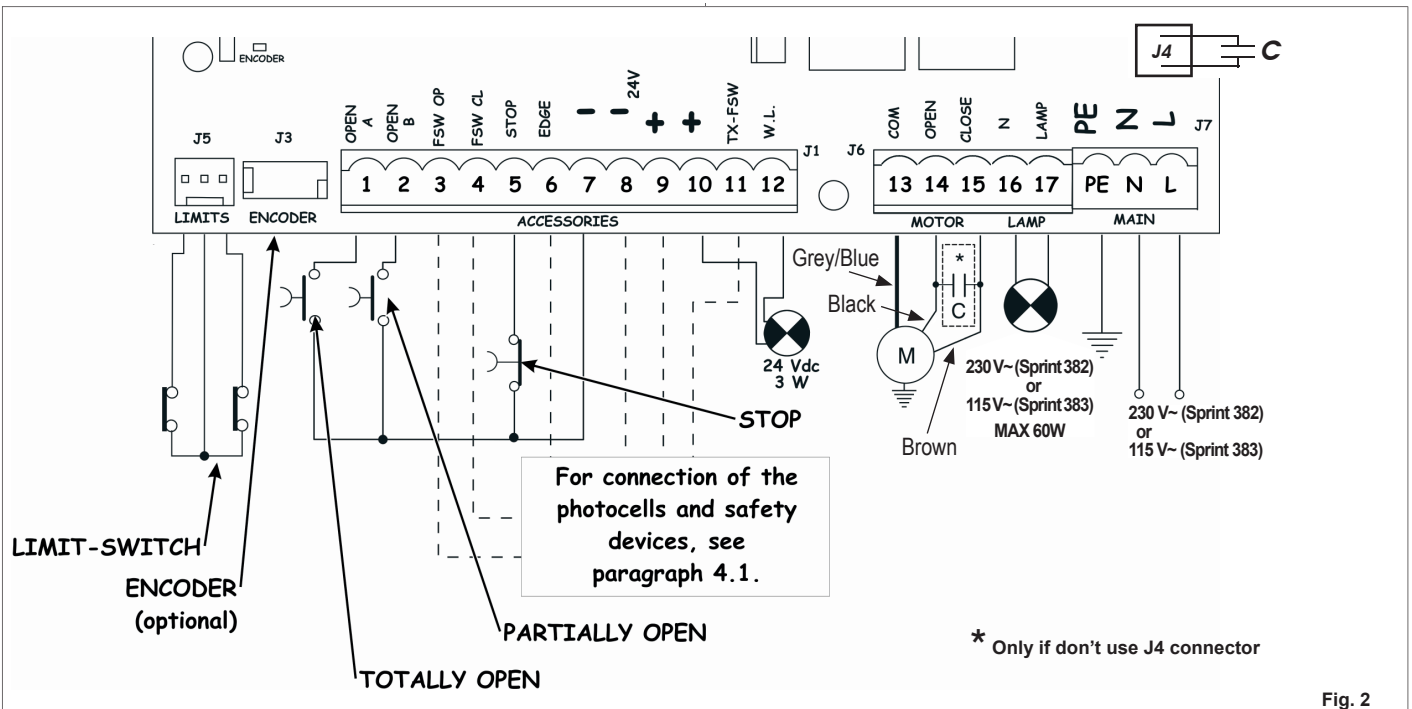

Fig. 2
4.2. J7 Terminal board - Power supply (fig. 2)	page.4
4.3. J6 Terminal board - Motors and flashing lamp (fig. 2)	page.4
4.4. J1 Terminal board - Accessories (fig. 2)	page.4
4.6. Connector J6 - Limit-switches rapid connection (fig.2)	page.5
4.7. Connector J3 - Encoder rapid connection (fig.2)	page.5
Connect the earth cable to the appropriate terminal on the J7 connector of the equipment (see fig.2).
**4.2. J7 Terminal board - Power supply (fig. 2)**
**4.3. J6 Terminal board - Motors and flashing lamp (fig. 2)**
**4.4. J1 Terminal board - Accessories (fig. 2)**
**4.6. Connector J6 - Limit-switches rapid connection (fig.2)**
This input is intended for rapid connection of the opening and closing limit-switches designed to stop the leaf, or for start of decelerations or for braking (see advanced programming in Chpt. 5.2.). In gearmotors with a built-in control unit, this connection is pre-wired as standard (fig. 2). For leaf opening direction, see advanced programming in Chpt 5.2.
**4.7. Connector J3 - Encoder rapid connection (fig.2)**